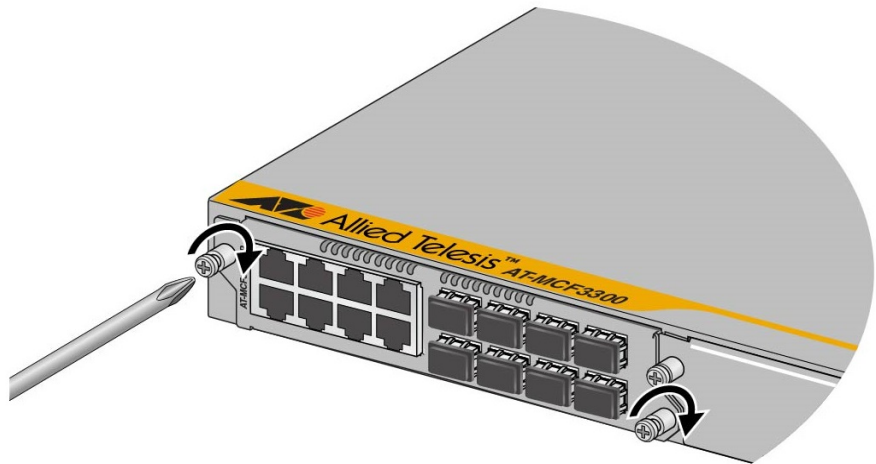

Figure 13. Securing a Media Converter Module
4. Tighten the two captive screws on the media converter module with a cross-head screwdriver to secure it in the chassis. Refer to Figure 13.